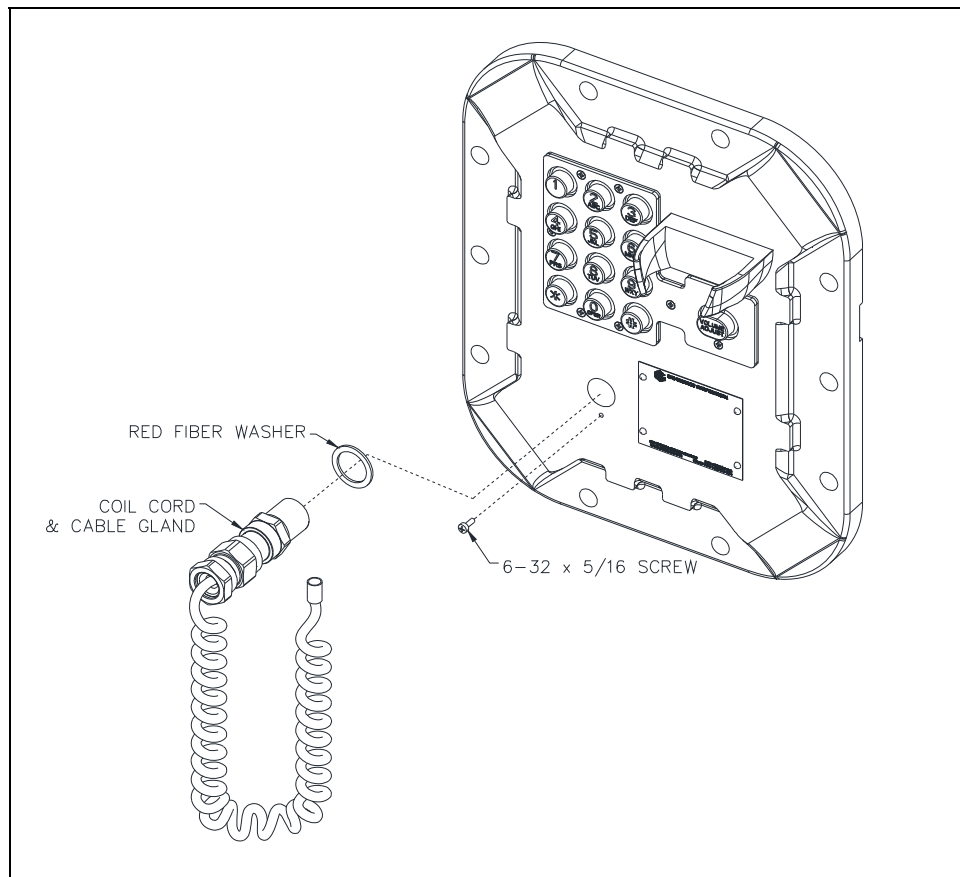

Figure 4. Handset Coil Cord with Fiber Washer and Anti-rotation Screw
9. Remove the 6-32×5/16 PHMS anti-rotation screw from the handset cable gland on the front cover of the enclosure (see Figure 4).
2. Place the red fiber washer onto the handset cable gland and thread the cable gland into the front cover (see Figure 4).
4. Install and securely tighten the 6-32×5/16-inch PHMS anti rotation screw (see Figure 4).